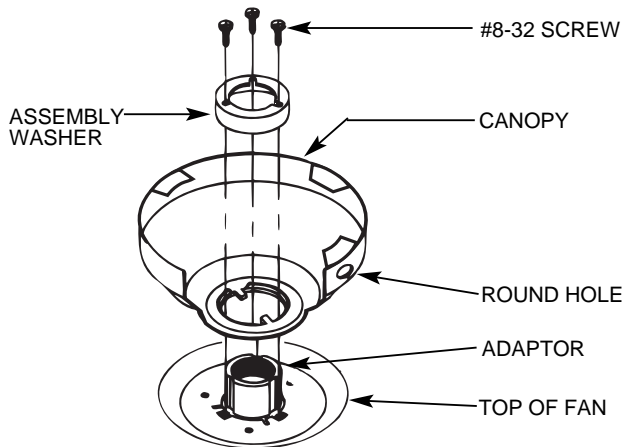

Figure 5. Low Profile Version
A. Place the canopy on top of the fan so the hole in the bottom of the canopy fits over the adaptor on the top of the fan. See Figure 5. Place the canopy assembly washer inside the canopy with the vertical flange of the washer resting on the inside of the canopy.
B. Position the (3) slots in the canopy assembly washer over the (3) threaded holes in the adaptor. see Figure 5.
C. Secure the canopy to the top of the fan using the (3) #8-32 x 7/8 long screws with lock washers. Make certain all screws are tight. Failure to do so could result in the fan falling.
D. Being careful not to scratch the canopy finish, hang the fan from the hook in the ceiling plate using the round hole in the top of the canopy. See Figures 5 and 5A.